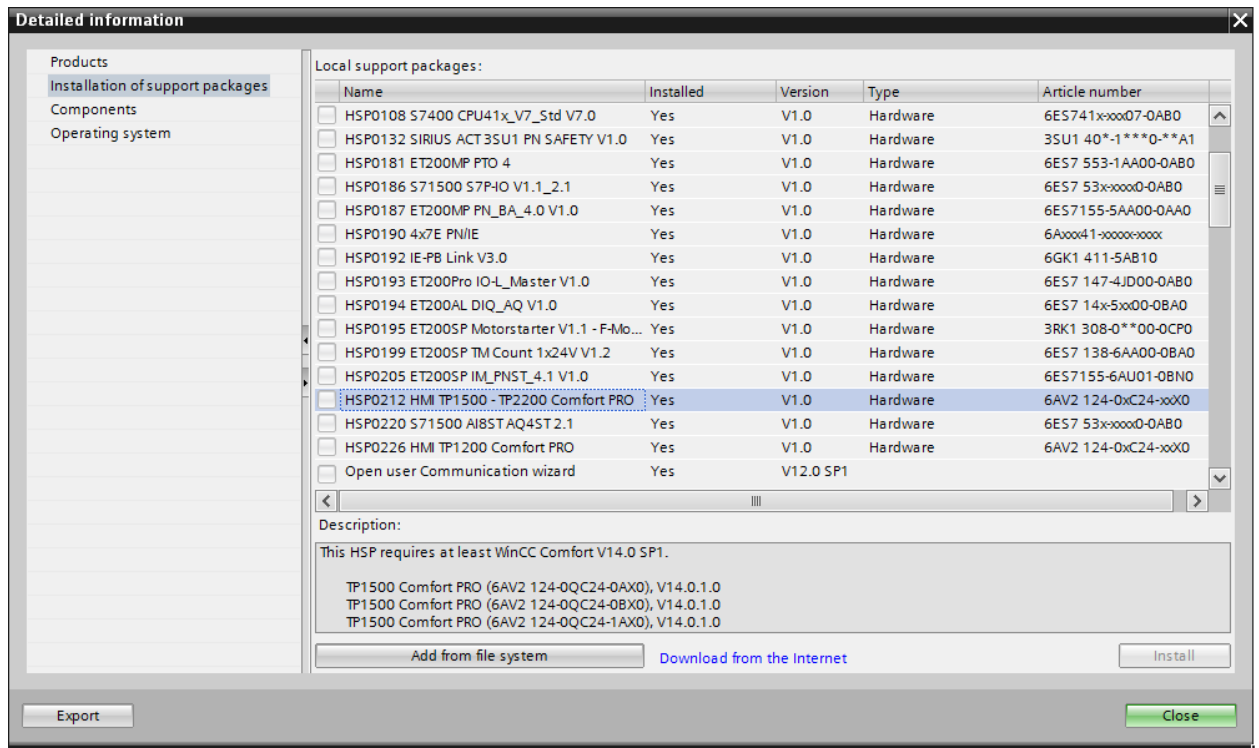

Figure 2-4: Installation of support packages
5. In the **Detailed information** window (as seen in Figure 2-4), click the **Add from file system** button. Find the files you have extracted, and select the **HMI TP1200 Comfort PRO** and the **HMI TP1500 - TP2200 Comfort PRO** files.